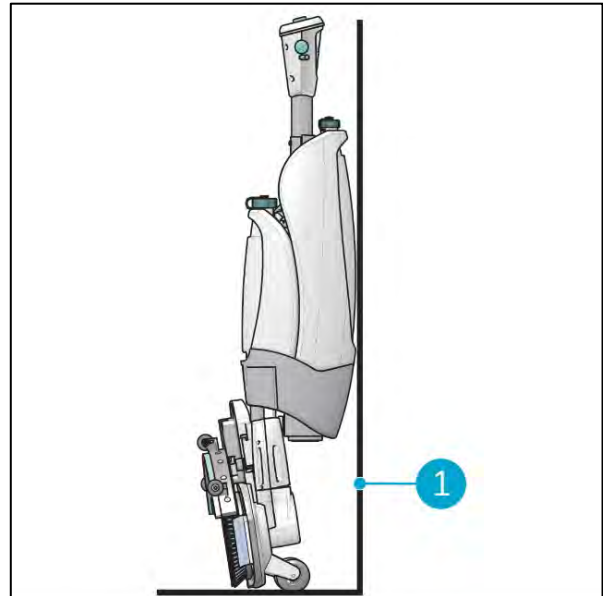

Figure 24
3. Store the i-mop XL Basic close to a wall (Figure 24, pos 1) with the handle pointing towards the wall and the brushes facing away from the wall.